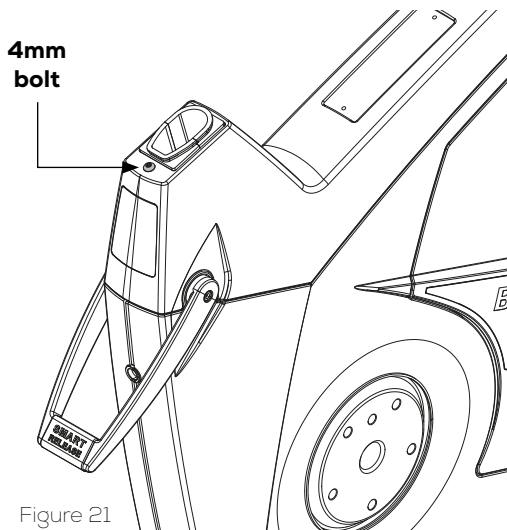

Figure 21
4) Remove the 4mm bolt in the front and back of the bike. See figure 21.